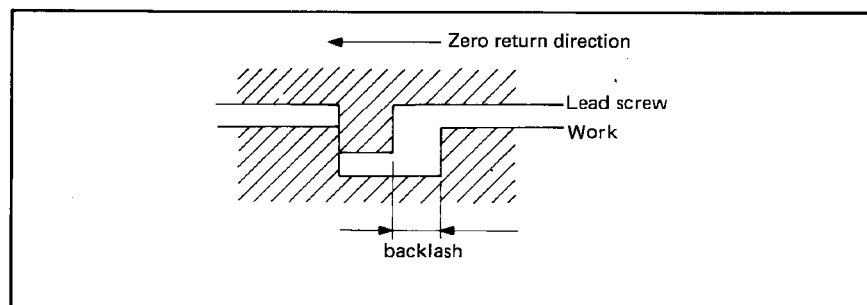

Fig. 2.4 Backlash Compensation
(6) Backlash compensation
- Allows a backlash compensation (see Fig. 2.4) to be programmed in for accurate positioning.